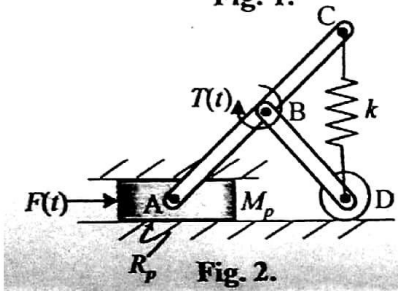

Fig. 2.
2. Draw a bond graph model (without causality) of the system shown in Fig. 2 where joints at A, B, C and D are pin joints with pin stiffness k_p and damping r_p . Pin B is at center of member AC. Slender members AC and BD have uniform cross-section and their mass centers can be assumed to be at their respective mid-span. Length of AC is $2l$ and that of BD is l , corresponding masses are $2m$ and m , and the rotary inertias at mass centers are $\frac{2ml^2}{3}$ and $\frac{ml^2}{12}$, respectively. The roller at D is friction-less and all revolute joint frictions are neglected. An external force $F(t)$ is applied on the slider of mass M_p which also experiences viscous damping R_p . A joint motor applies torque $T(t)$ on member BD and the reaction torque acts on member AC. Note that $T(t)$, though shown in the figure, is not an external torque. Clearly show the inertial (global) and body-fixed frames and the angles used in model building.